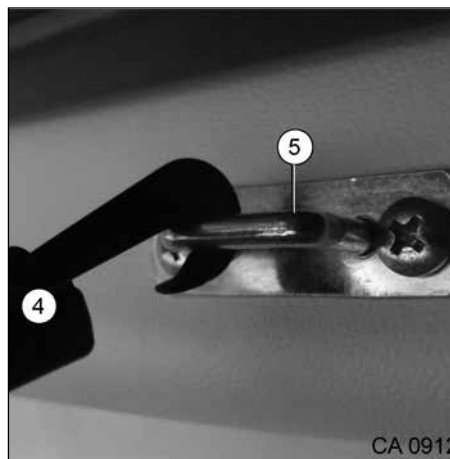

Fig. 24 Hook and retaining ring
3. Lift the partitioned bed frame (Fig. 22 and Fig. 23, Pos. 3), and fold up to the left and right sides. Secure the fastening strap with hook (Fig. 24, Pos. 4) under the overhead cabinet in retaining rings (Fig. 24, Pos. 5).